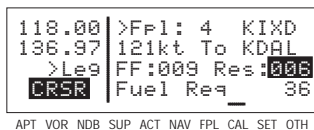

Figure 4-65
- Move the cursor to the fuel reserve requirement field and enter the desired value. As you do, watch the calculation of fuel required on line 4 change (figure 4-65).